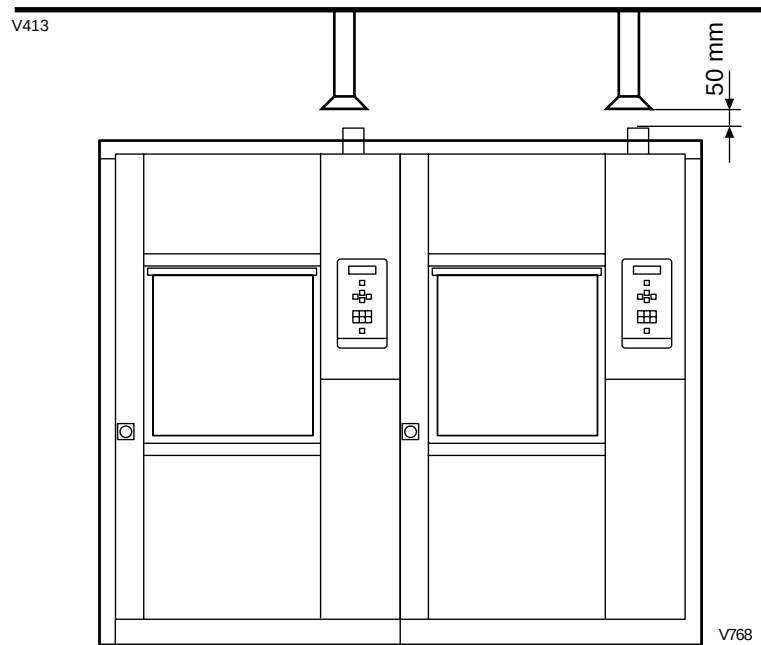

Fig. 6. Connection for dryer
- Connect the disinfectant to a drain that has a capacity of at least 30 litres per minute. The drain may be connected to the rear or downwards as indicated in figure 6. Diameter of drain: 50 mm.